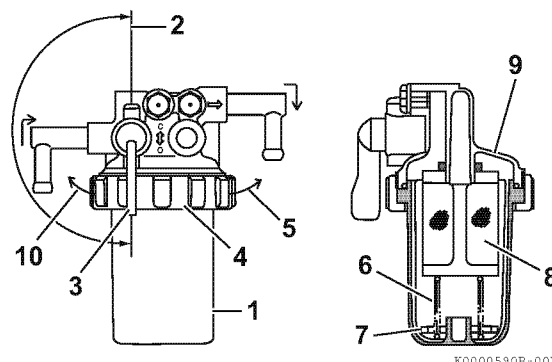

Figure 5-14
1. Position an approved container under the cup (Figure 5-14, (1)) of the fuel filter/water separator to collect the contaminants.
2. Close (Figure 5-14, (2)) the fuel cock (Figure 5-14, (3)).
3. Turn the retaining ring (Figure 5-14, (4)) to the left (Figure 5-14, (10)).
5. Keep the retaining spring (Figure 5-14, (6)) and float (Figure 5-14, (7)) nearby for assembly.
6. Remove the element (Figure 5-14, (8)) by pulling it down.
10. Put the float (Figure 5-14, (7)) and retaining spring (Figure 5-14, (6)) inside the cup.
11. Install the cup to the mounting flange (Figure 5-14, (9)) and turn the retaining ring (Figure 5-14, (4)) to the right (Figure 5-14, (5)). Hand-tighten only.
12. Open the fuel cock (Figure 5-14, (3)).